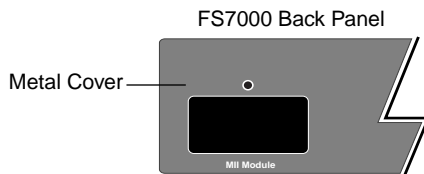

Figure 2-6 MII slot
- 1 Unscrew the metal cover from the front of the MII slot (located on the Switch's back panel) using a small Phillips screwdriver. See Figure 2-6.